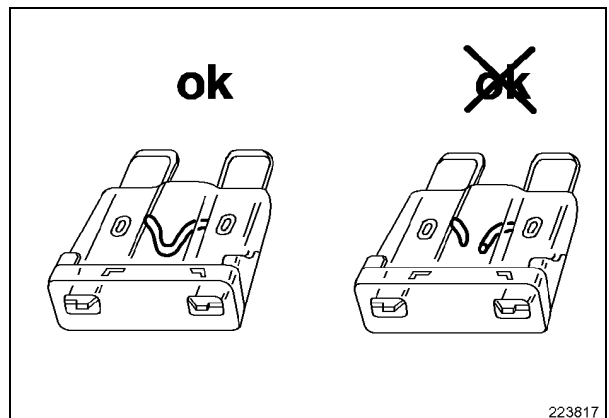

Fig. 3
- Check the fuse. In most cases, a blown fuse wire can be seen with the naked eye (Fig. 3). In case of doubt, check the fuse with an ohmmeter or replace right away by a new one.